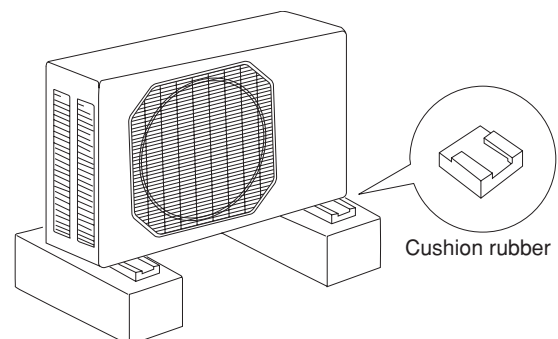

Fig. 5f
- Install cushion rubber under unit's feet to reduce vibration and noise. (Fig. 5f)